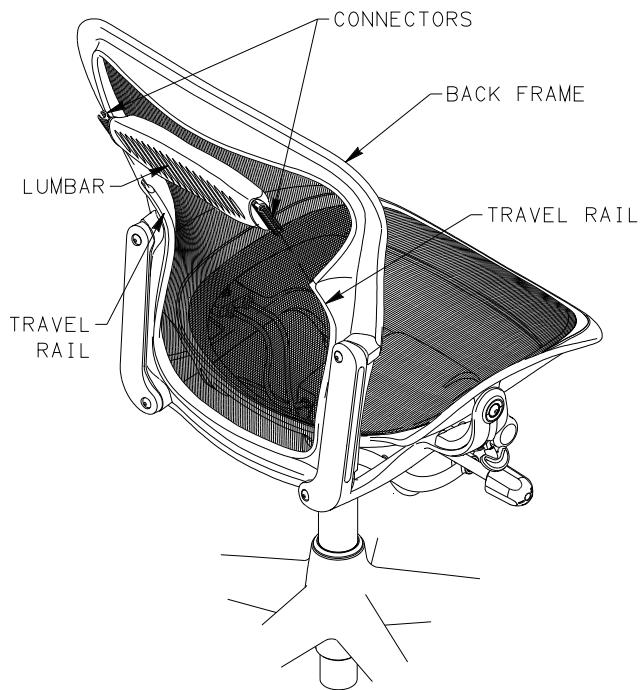

FIGURE 1
4. IF CHAIR IS EQUIPPED WITH LUMBAR, ATTACH LUMBAR TO BACK FRAME BY ENGAGING EACH CONNECTOR ON LUMBAR TO TRAVEL RAILS OF BACK FRAME AND SLIDING DOWN. SEE FIGURE 1.